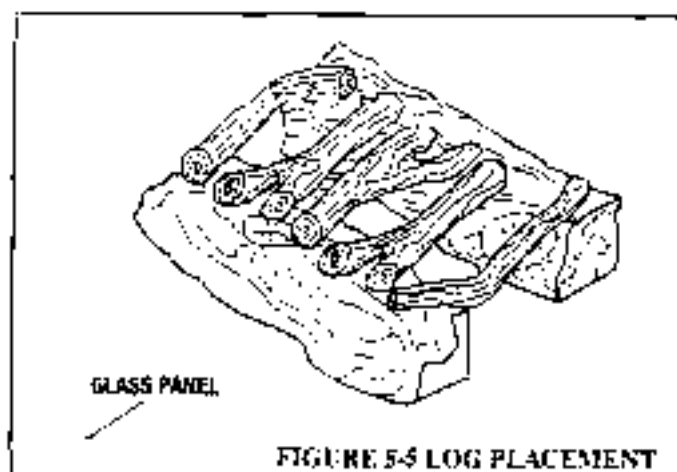

FIGURE 5-5 LOG PLACEMENT
The Marco CCT41 includes a seven (7) piece log set. Alignment pins and slits are provided to ensure proper spacing and location. Refer to Figure 5-5.
1. Put the logs in place as shown in Figure 5-5.